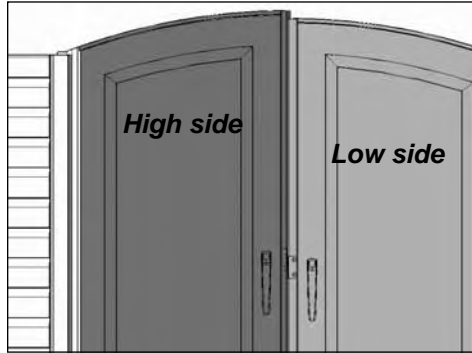

Fig. 1
16a In some cases, the shed doors may not completely line up at the tops (Fig. 1). When this happens, identify which side is higher and use a shim (BD) to slightly raise the back corner of the high side until doors line up (Fig. 2). If doors need further adjustment, insert another shim under the front corner opposite of the first shim. If the doors still need further adjustment, stack additional shims (one at a time) alternating between the back and front shims.